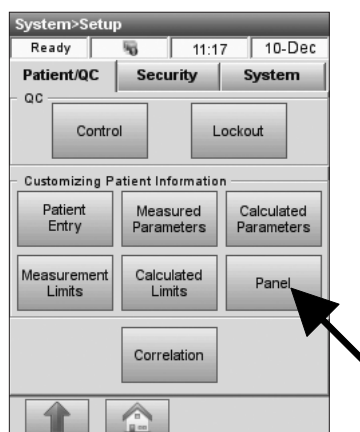

Fig. 3-36 Panel
2. On the **<Patient/QC>** tab, press **<Panel>** (Fig. 3-36).